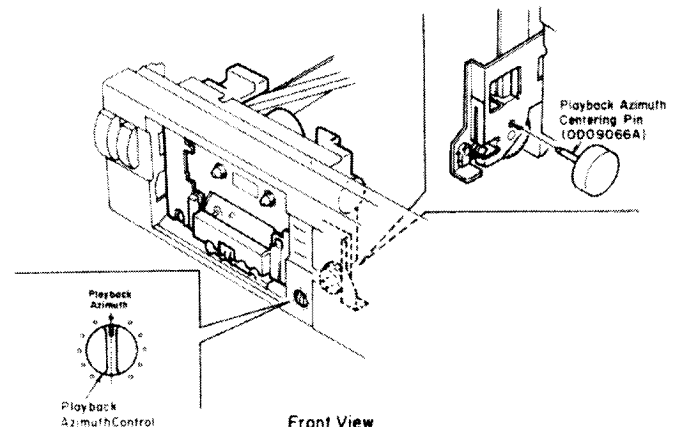

Fig. 4.5.1
Refer to Figs. 4.5.1 and 4.5.2.
1. Set the Playback Azimuth control on the Front Panel to the center position. (See Fig. 4.5.1.)
2. Insert the Playback Azimuth Centering Pin (OD09066A) securely as shown in Fig. 4.5.1.